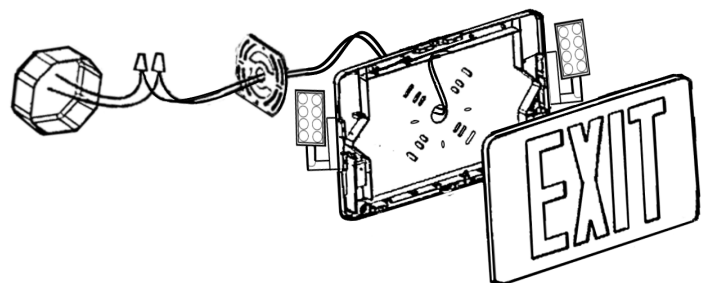

Figure 5 - Back Mount
- Run the wires through the mounting bracket as seen in "Figure 5 - Back Mount" below.